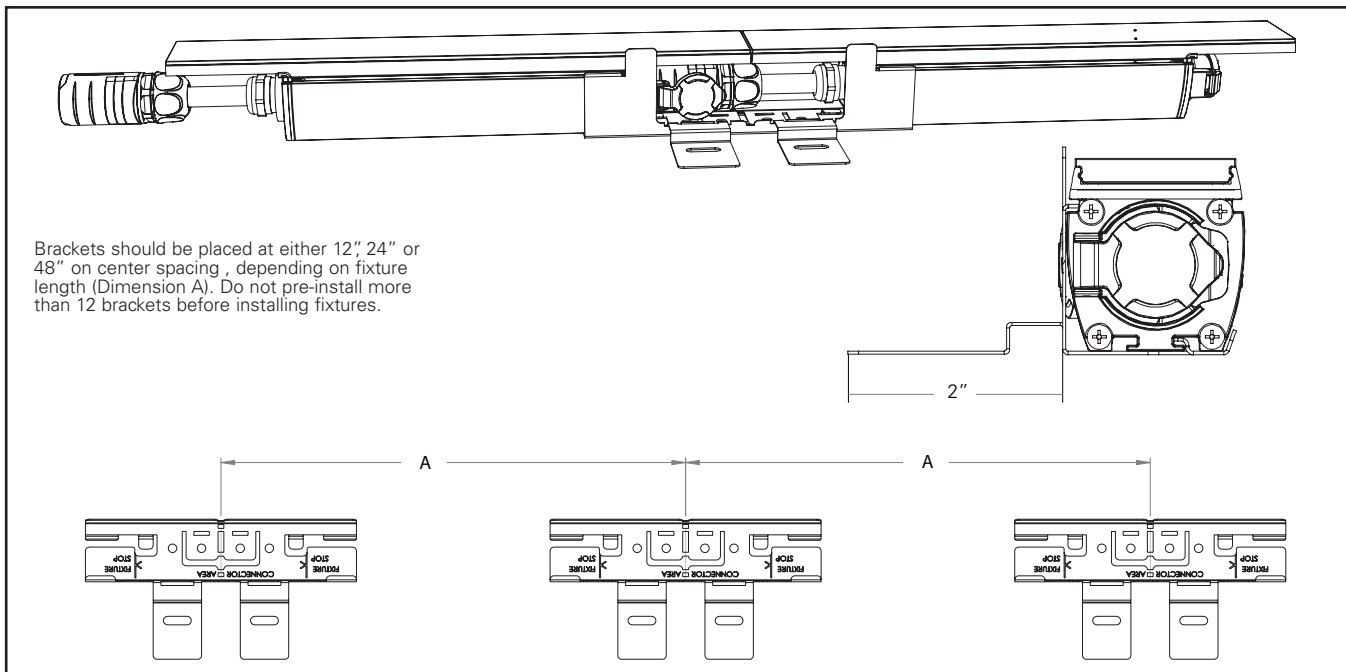

Figure 12
10. Mountings are designed to span between fixtures to assure alignment between fixtures. Connectors have 2" standoffs to align with the wall and optimize lighting performance. (See Figure 12).